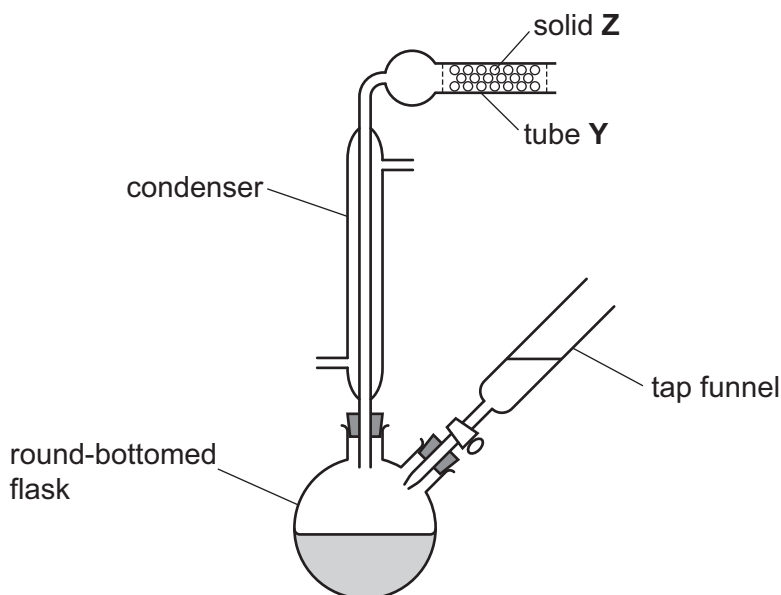

Fig. 1.1
- step 1** Set up the apparatus shown in Fig. 1.1 with approximately 1.25g of Mg powder and  $5\text{cm}^3$  of ethoxyethane in the round-bottomed flask.
- (i) Suggest how the glassware shown in Fig. 1.1 should be dried before use in step 1.
(c) Fig. 1.1 shows the apparatus for steps 1–3.
- (i) Draw a labelled arrow on Fig. 1.1 to show where the water enters the condenser. [1]